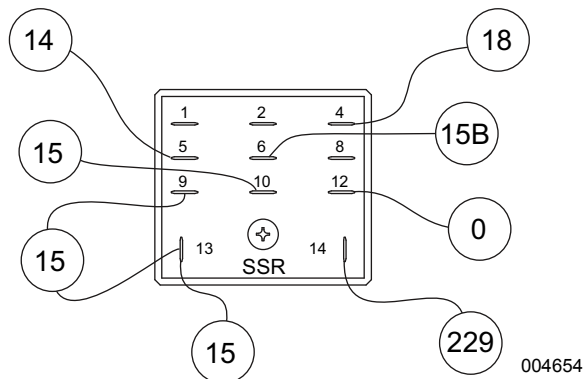

Figure 4-40. Start Stop Relay (SSR)
2. See Figure 4-40. Remove wire 15 from Terminal 13 on the start stop relay (SSR).
5. See **Figure 4-40**. Connect wire 15 to the SSR and remove wire 229 from the SSR.